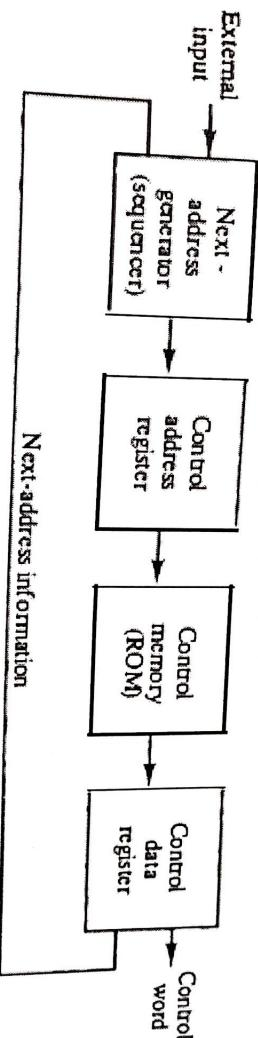

Fig 14: Microprogrammed control organization
- The general configuration of a microprogrammed control unit is demonstrated in the block diagram of Fig. 14.